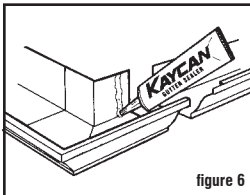

figure 6
Joining corner and gutter sections. Notch the top front bead and rear gutter (figure 6) to overlap sections 2". Apply Kaycan gutter sealer over one surface of the joint and press together with the corner section (B) or (C). Apply a bead of sealer along the inside edges of all joints.